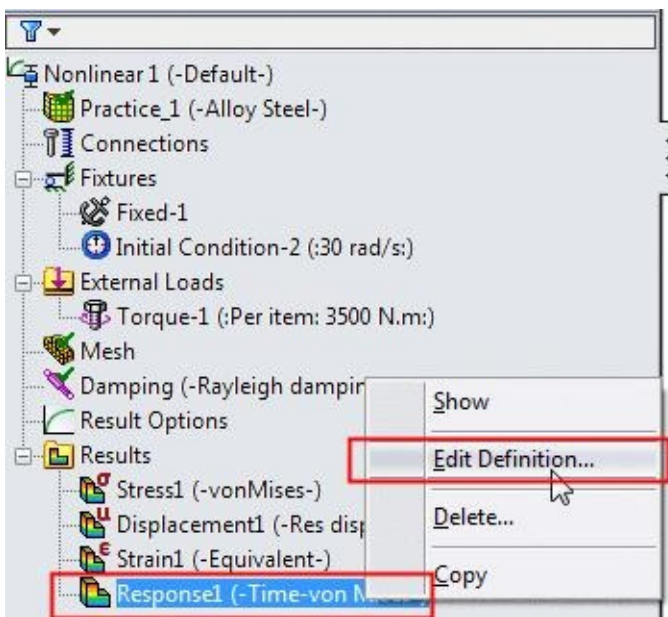

Figure-28. Shortcut menu for response result
- Close the **Response Graph** dialog box and right-click on Response1 result in the **Result** node in **Analysis Manager**; refer to Figure-28.